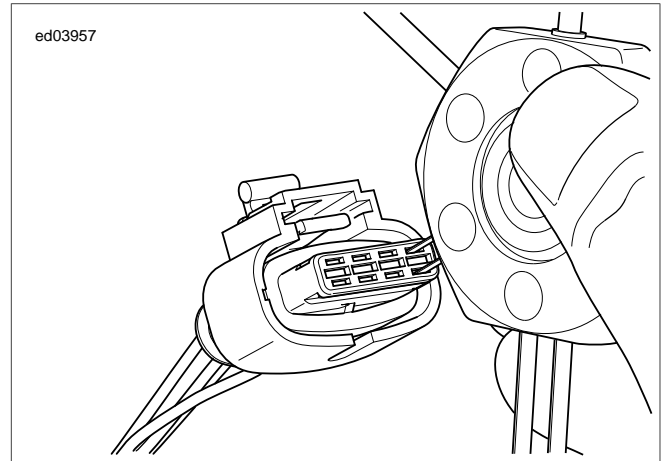

Figure B-2. Terminal Removal: Bosch Compact 1.1M Connector
1. See Figure B-2. Slide the locking bar off the terminal housing.